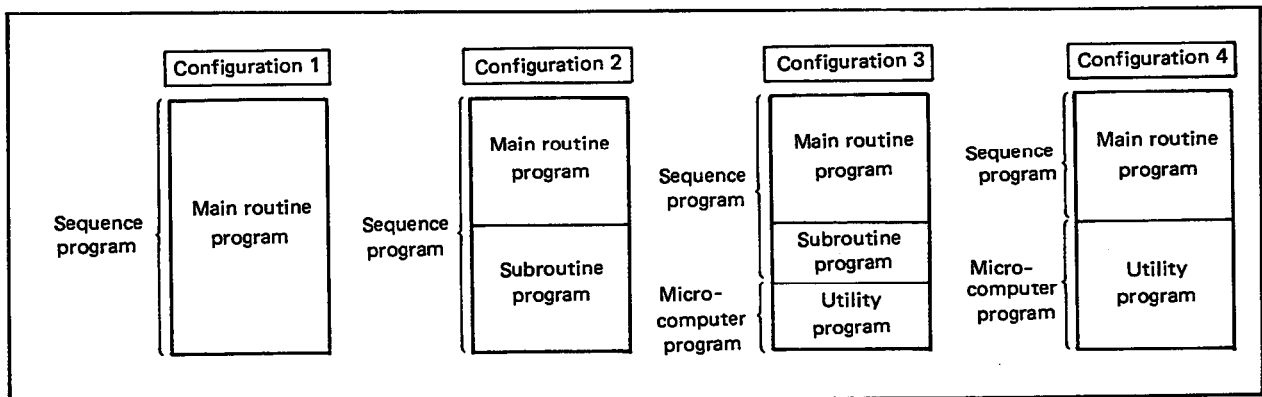

Fig. 3.2 Program Configurations
- 1) In the user memory area, programs may be written in the configurations shown in Fig. 3.2.